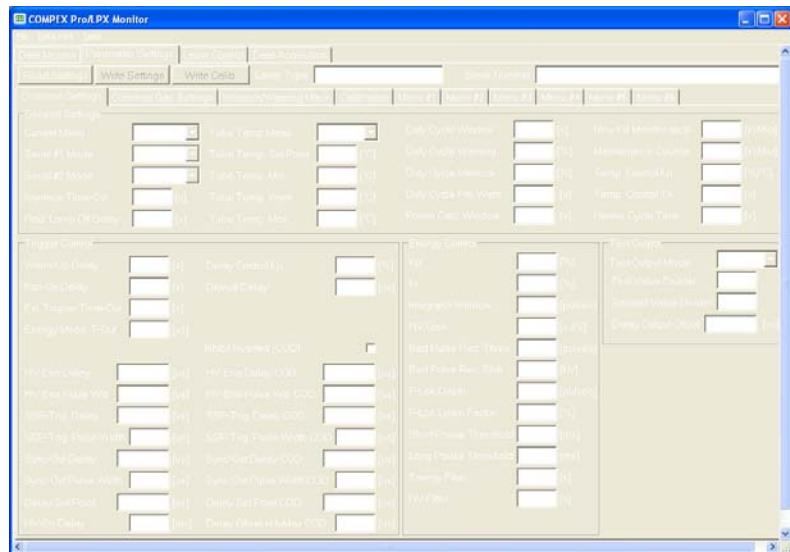

Figure 123: LCS Monitor parameter settings screen
22. Start the LCS Monitor (CMPX_Mon.exe) and select the “Parameter Settings” tab (see Figure 123).